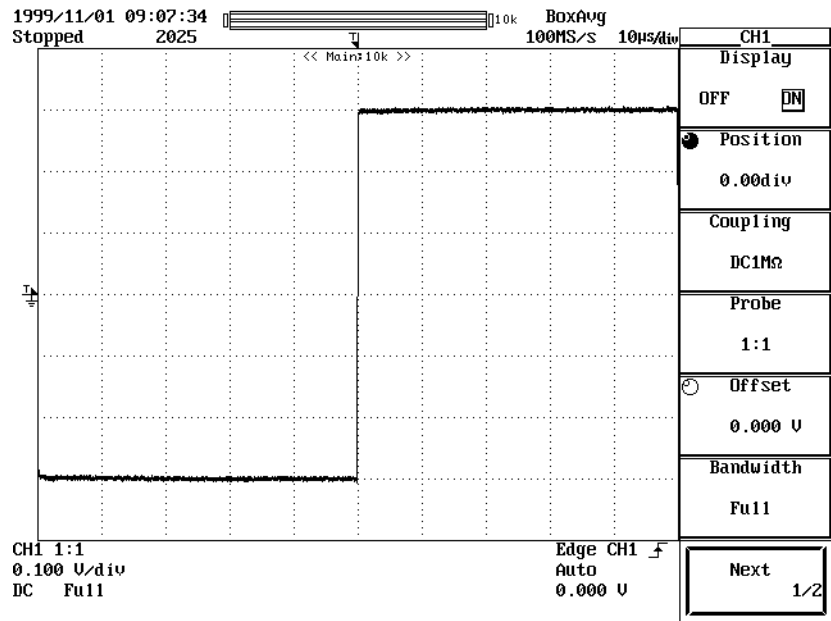

Figure 3.7 Observed Waveform
- 8) Adjust the variable capacitors CV101 and CV201, (refer to figure 3.6, "Adjustment Point Location Diagram") so that the top of the waveform becomes flat as shown in figure 3.7, "Observed Waveform." The flatness of the waveform must be fitted within ± 0.1 div.
- 10) Adjust the variable capacitors CV102 and CV202 (refer to figure 3.6, "Adjustment Point Location Diagram") so that the top of the waveform becomes flat as shown in figure 3.7, "Observed Waveform." The flatness of the waveform must be fitted within ± 0.1 div.
12) Adjust the variable capacitors CV103 and CV203 (refer to figure 3.6, "Adjustment Point Location Diagram") so that the top of the waveform becomes flat as shown in figure 3.7, "Observed Waveform." The flatness of the waveform must be come within ± 0.1 div.